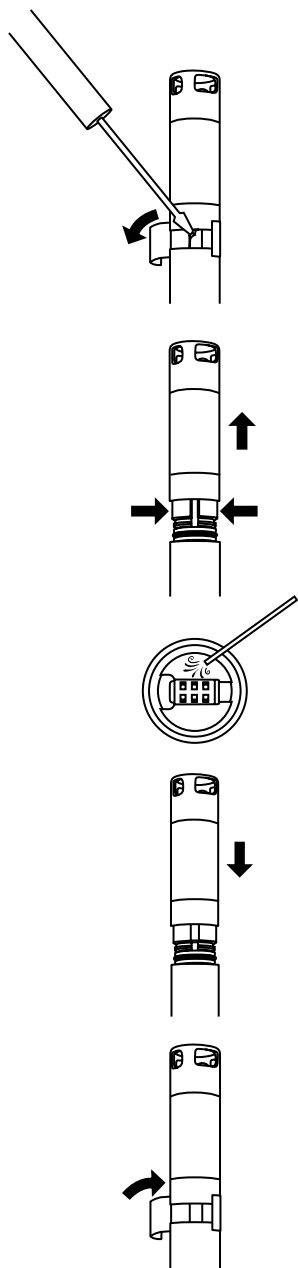

Figure 82 Sensor module replacement
1. Peel off and discard the sticker that covers the junction of the sensor body and the module (Figure 82).